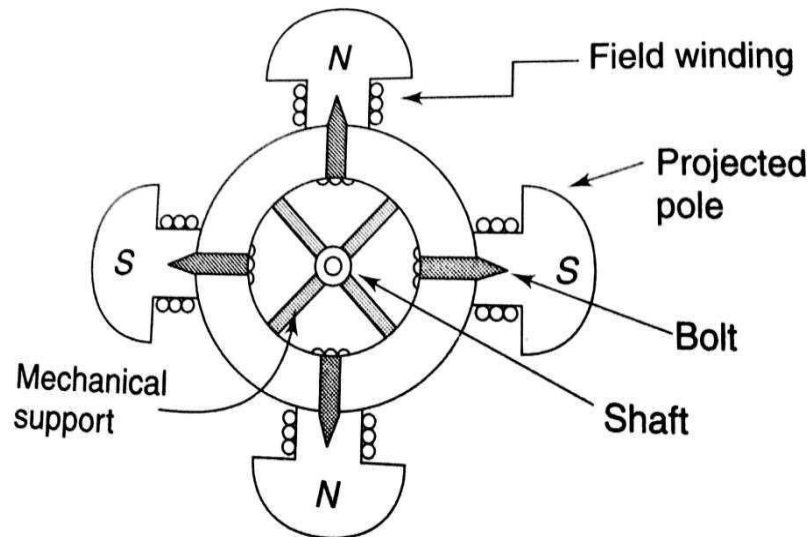

Figure 4.18 Salient pole type rotor
- To prevent these oscillations from going beyond bounds the damper winding is provided in the pole faces as shown in the Figure 4.18.